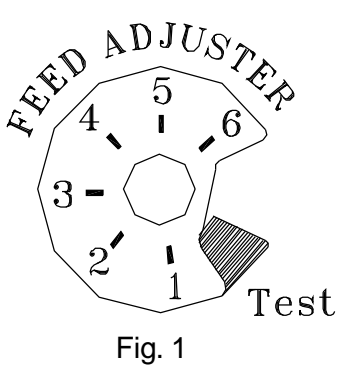
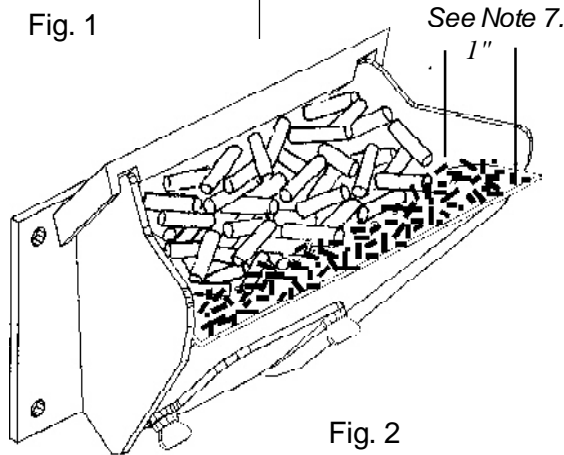

Fig. 1
Fig. 2
4. Adjust Feed Rate. If this is your first fire or you are trying different pellets, set the feed adjuster to #4, Fig. 1. This is a conservative number and will probably need to be increased. After you know a feed rate setting that works well, use that setting. Remember, if your feed rate is too high you may waste fuel.
High output is determined by the feed rate setting. This setting, generally on #4, can be increased if higher burn rates are necessary (Fig. 1). The unit's maximum burn rate should not create less than 1" of ash on the burn pot front edge (See Fig.2). Overfeeding is not a safety concern, but fuel may be wasted if unburned pellets fall into the ash pan.
This allows for automatic ignition upon start-up only. The unit can then be set at any desired setting. The heat output and fuel consumption will remain constant regardless of room temperature (See Fig 4). The unit's maximum feed rate should not create less than 1" of ash on the burn pot front edge. See Fig 2.